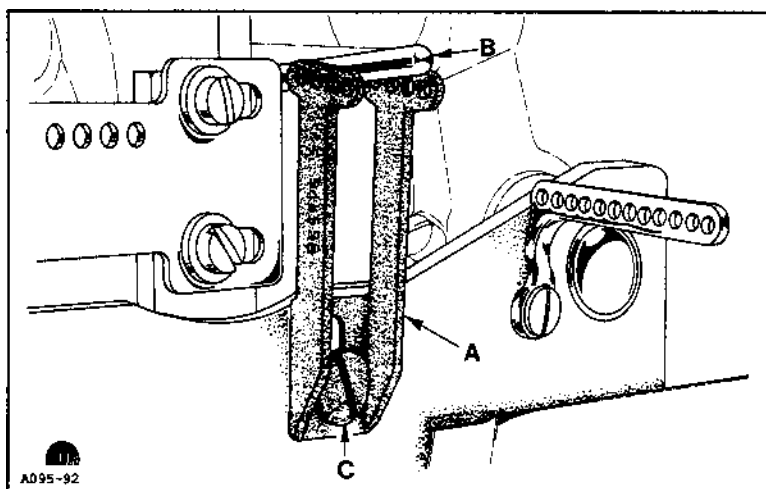
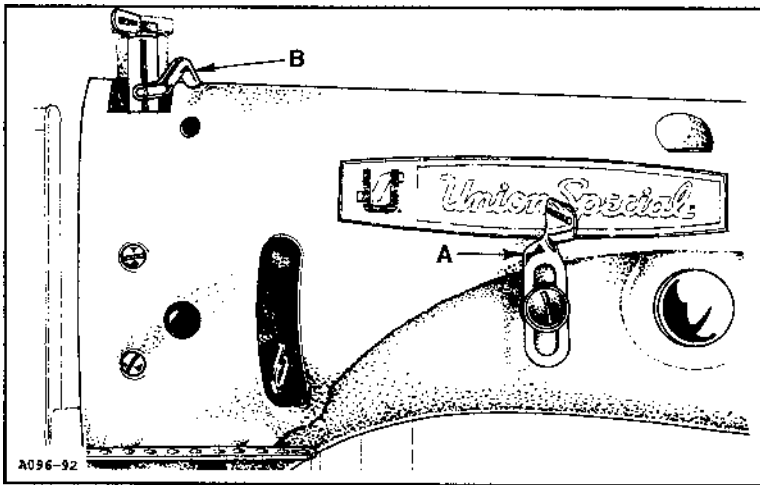

Fig. 19
Fig. 20
Set looper thread take-up eyelet (A, Fig. 19) so take-up pin (B) begins to function when the loopers start their travel to the rear. Set frame needle thread eyelet (A, Fig. 20) as high as possible without pulling thread through the tensions on the downward stroke of the needle bar. Set needle thread take-up wire (B) so the threads contact it at the same time the thread loops leave the points of the loopers.